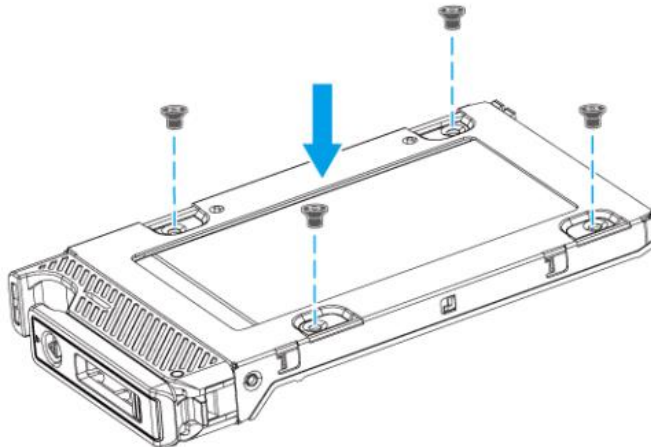

Figure 3-9: U.2 Drive Retention Screws
Step 3: Secure the drive with the bracket by inserting four retention screws (M3*4) into the bottom of the drive (**Figure 3-9**).